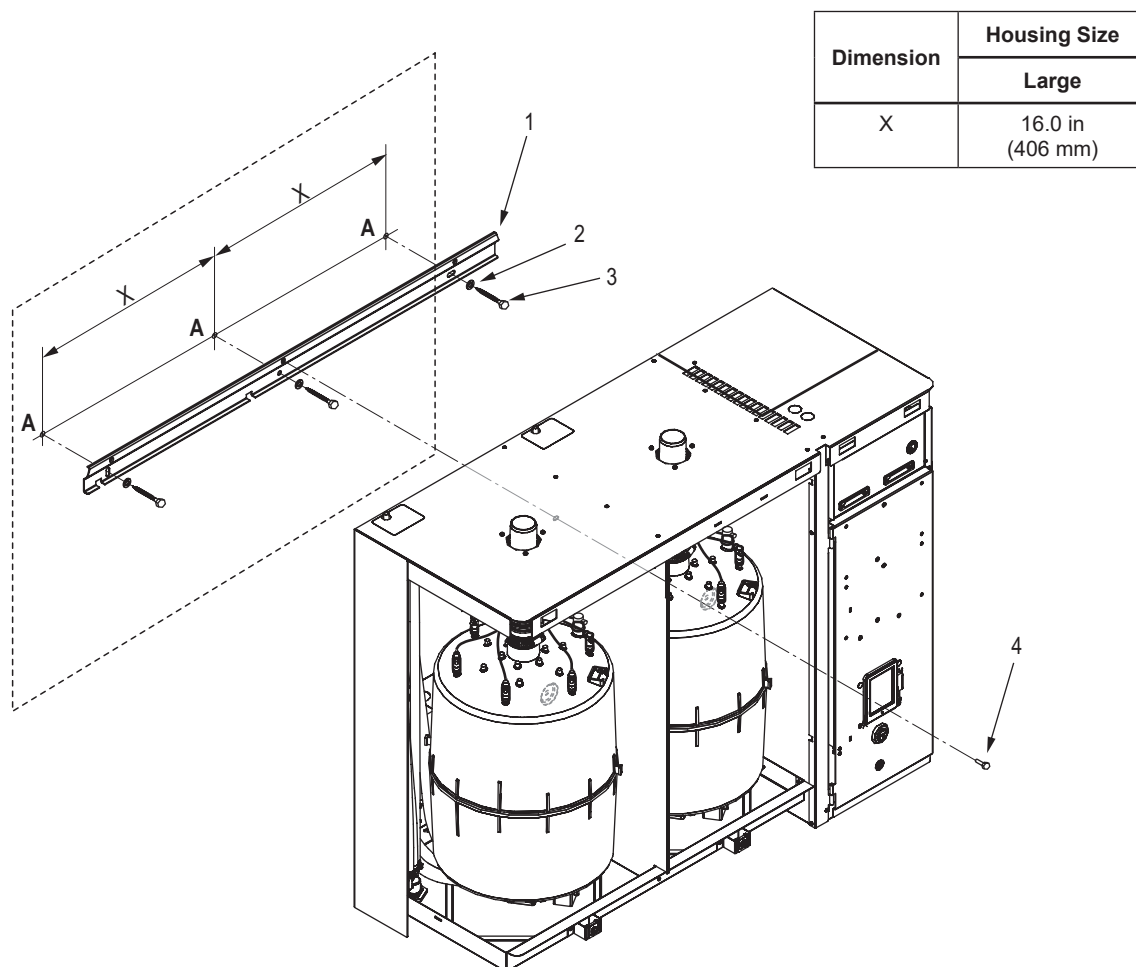

Figure 10: Optional Mounting, Large Housing
1. Locate 2×4 wooden studs or equivalent support in the mounting surface, and mark the attachment points "A" at the desired position with the help of a level. For small or medium housing refer to Figure 9. For large housing refer to Figure 10 on page 25.